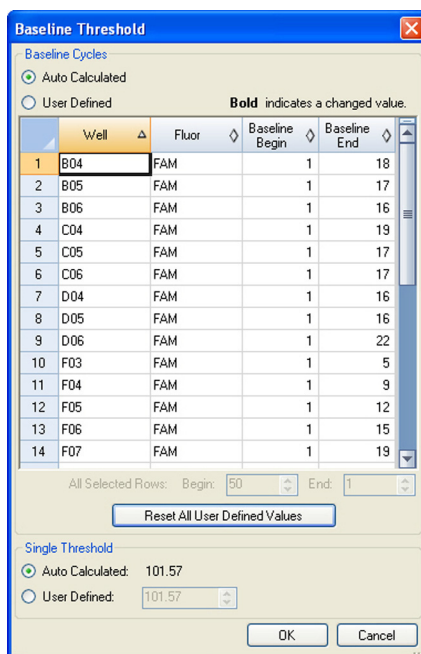

Figure 52. Baseline Threshold window.
3. Adjust the crossing threshold (Figure 52) for the fluorophore by clicking **User Defined** and entering a threshold number.
Once wells for analysis have been selected, check the baseline settings in these wells. Open the Baseline Threshold window (Figure 52) to change the default baseline for selected wells. To open this window:
2. Adjust the **Baseline Begin** cycle and **Baseline End** cycle for all selected wells, or change the **Begin** and **End** cycle number at the bottom of the spreadsheet (Figure 52).